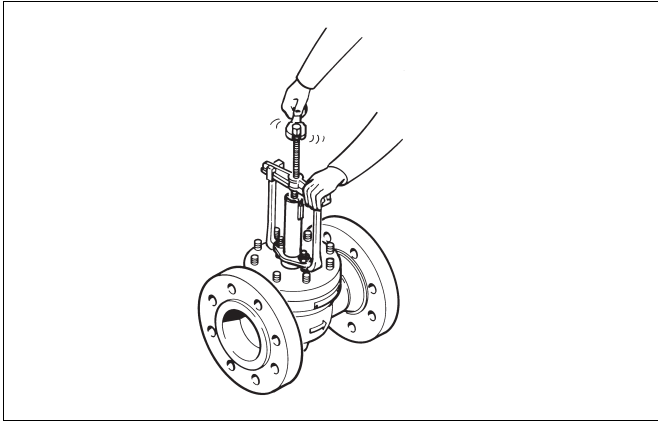

Fig. 10 Detaching the bonnet
- ❑ Remove the key (10). Check that there are no burrs on the edges of the key slot.
- ❑ Loosen the gland packing by unscrewing the nuts (18).
- ❑ Remove the hexagon nuts (16) on the bonnet.
- ❑ Lift the bonnet. You may use an extractor as help, see Fig. 10.